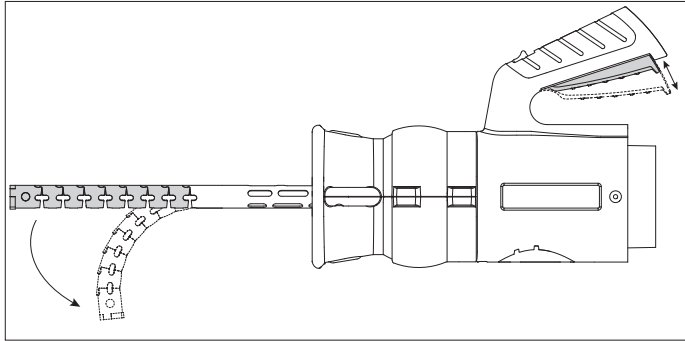

Fig. 5.1 Operating the handle to connect the Grabber
- Squeeze handle firmly and repeatedly until there is sufficient friction between the beak and the exhaust pipe. You can squeeze the handle as tight as you like to optimize the grip of the Internal Grabber in the tailpipe. Refer to fig. 5.1, 5.2 and 5.3.